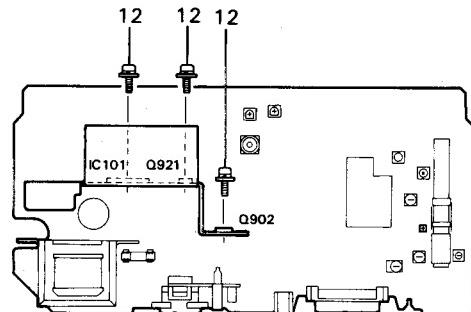

Fig. 7-11
**■ Heat Sink (refer to Fig. 7-11)**
1. Remove the three screws ⑫ retaining the IC101 and Q902, Q921 from the heat sink.